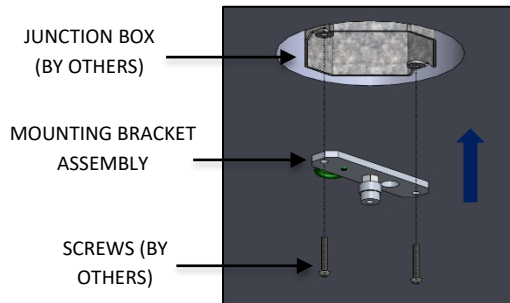

FIG. 26 – MOUNTING BRACKET
3. Assemble the MOUNTING BRACKET ASSEMBLY to the JUNCTION BOX the fixture will mount to (by others) with screws (by others) as shown in FIG. 26 below.